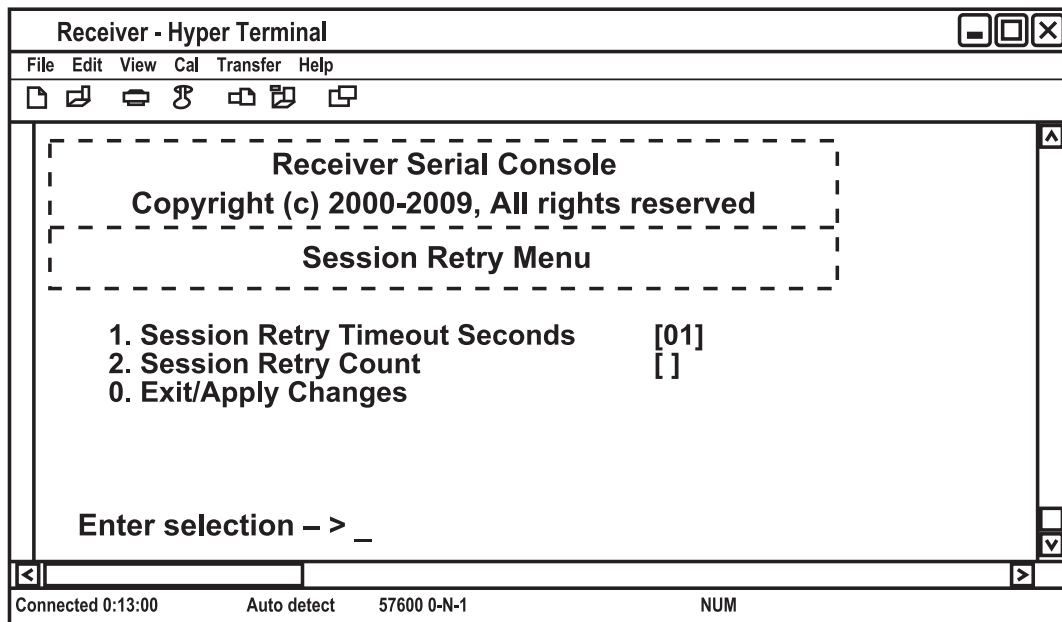

Figure 4-33. Session Retry Menu.
4. Press "1" to access the Session Retry Menu and press "Enter." See Figure 4-33.